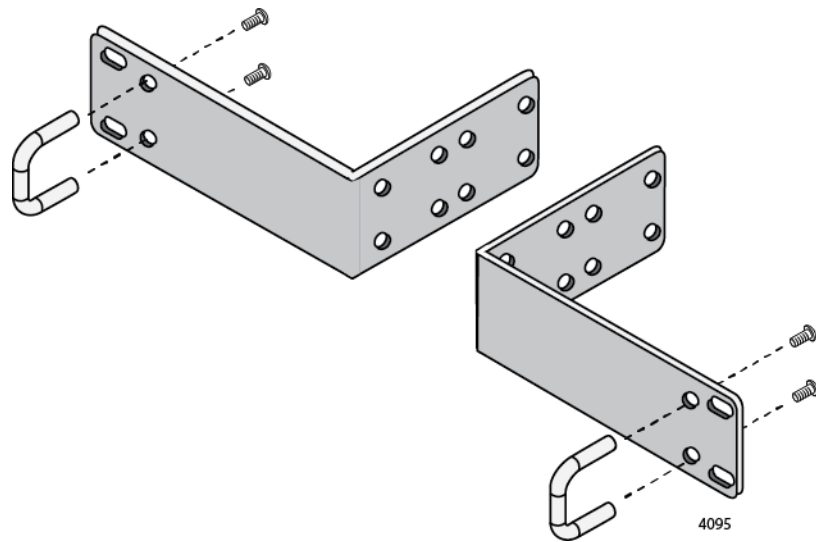

Figure 21. Attaching the Handles to the AT-RKMT-J14 Brackets
1. Attach the two handles to the AT-RKMT-J14 Brackets using the four M3x6mm screws included with the switch. Refer to Figure 21 on page 54.